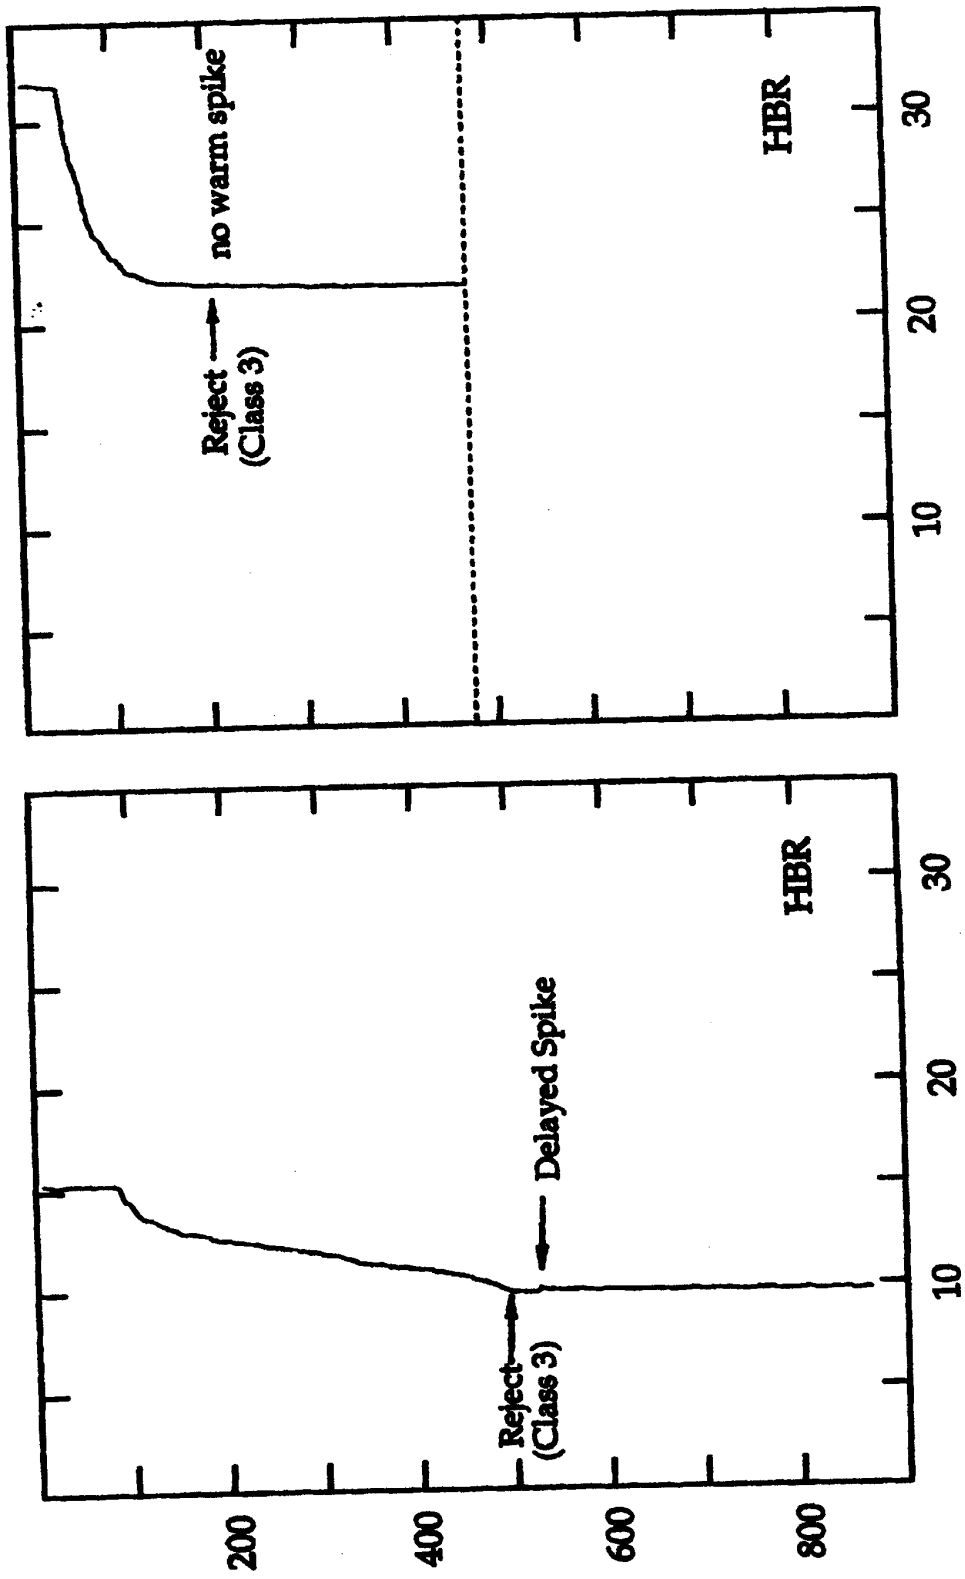

Figure 8d. Hit Bottom Reject (HBR)
- Fig. 8d:** The HBR flag is used if a hit bottom event is indicated by the trace.